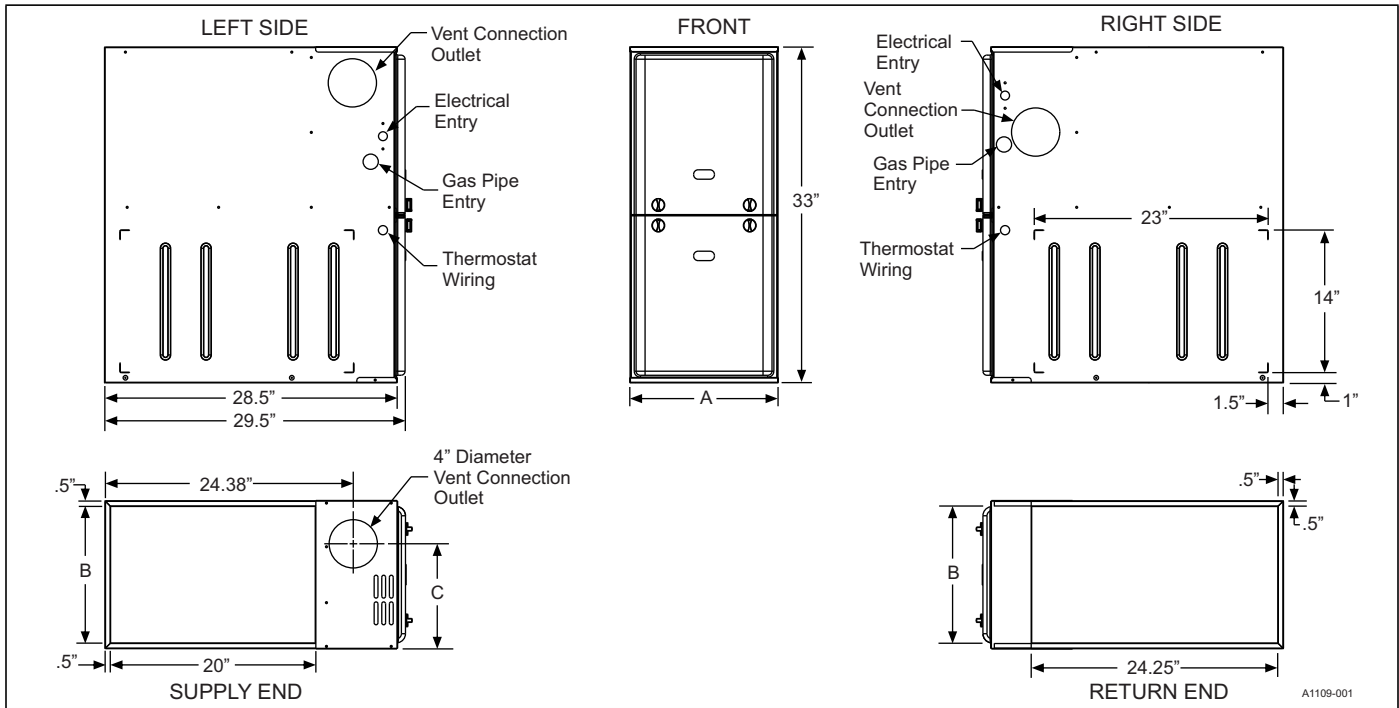

FIGURE 7: Dimensions
**IMPORTANT:** Some accessories such as electronic air cleaners and pleated media may require a larger side opening. Follow the instructions supplied with that accessory for side opening requirements. Do not cut the opening larger than the dimensions shown in Figure 7.
Gas piping may be connected from either side of the furnace using any of the gas pipe entry on both sides of the furnace. Refer to Figure 7.